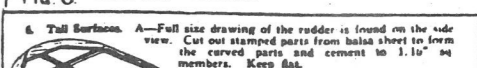

Fig. 5.
4. Nose Block & Tail Assembly. The nose blocks vary for some of the models and can be shaped out according to the drawing. To make the propeller assembly put the prop. shaft through the hard wood thrust bearing. Smooth add on two washers, then continue through the hub of the propeller. Next bend over the end of it into a hook, apply a drop of cement, and draw back into the propeller securing the shaft. The tail assembly and rear hook are usually fastened on the tail of body, and can be built directly from the plan. Sometimes a rear post arrangement is used, as shown above in Figure 5.